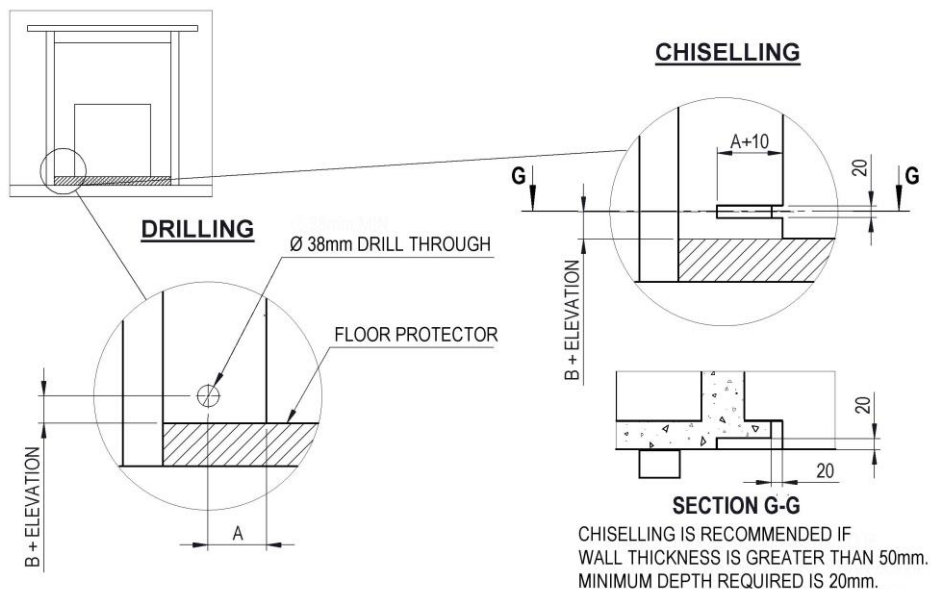

Fig. 11
- Ensure wiring for fan (Fig. 11) is taken into account when preparing cavity.
- M1.** The floor protector extension from the unit (Fig. 11) can be reduced if the unit is elevated. (Table 2)
Q. Fan Installation (Fig. 11)